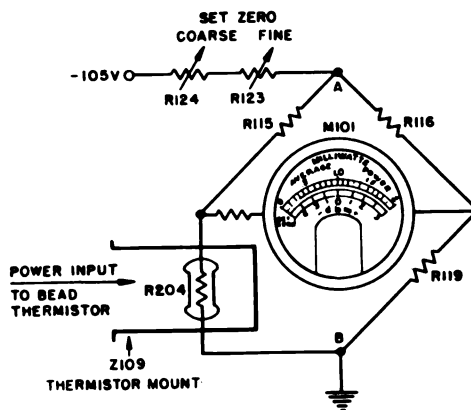

Figure 2-22. Basic Thermistor-Bridge Circuit
ture. A simplified thermistor bridge circuit is shown in figure 2-22. The Wheatstone bridge consists of three resistors, R115, R116, and R119, and the bead thermistor in the thermistor mount, Z109. When the Wheatstone bridge is balanced, no current flows in the meter. Under this condition, the thermistor's resistance is:
4. The basic thermistor-bridge circuit shown in figure 2-22 must be modified in practice to compensate for the fact that changes in the ambient temperature of the bead thermistor make it necessary to readjust the FINE SET ZERO control before every measurement. The method employed to compensate for this effect is outlined in the following paragraph.